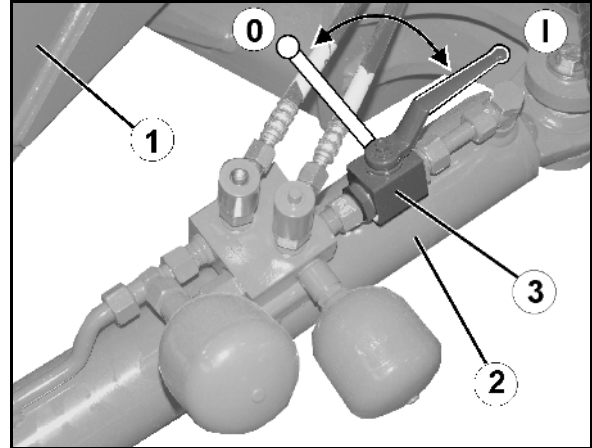

Fig. 72
4. Secure the steering draw bar (Fig. 72/1) by closing the stop tap (Fig. 72/3) in position **0**